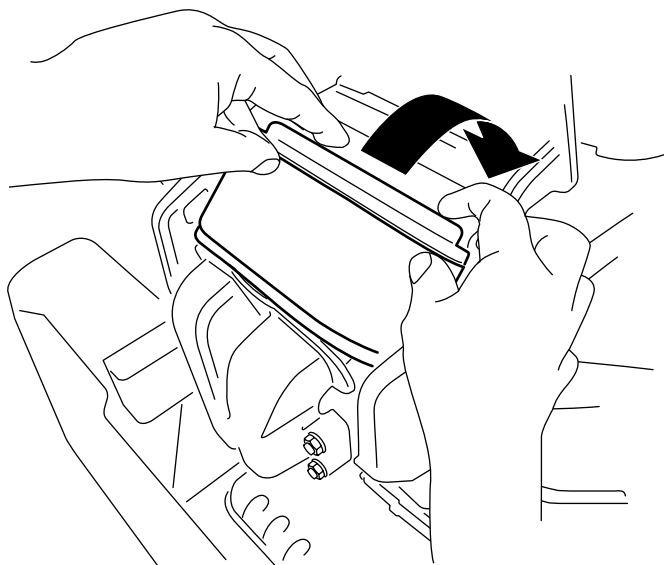

Figure 47
3. Rotate the filter down into the chamber and fully seat it against the manifold (Figure 47).